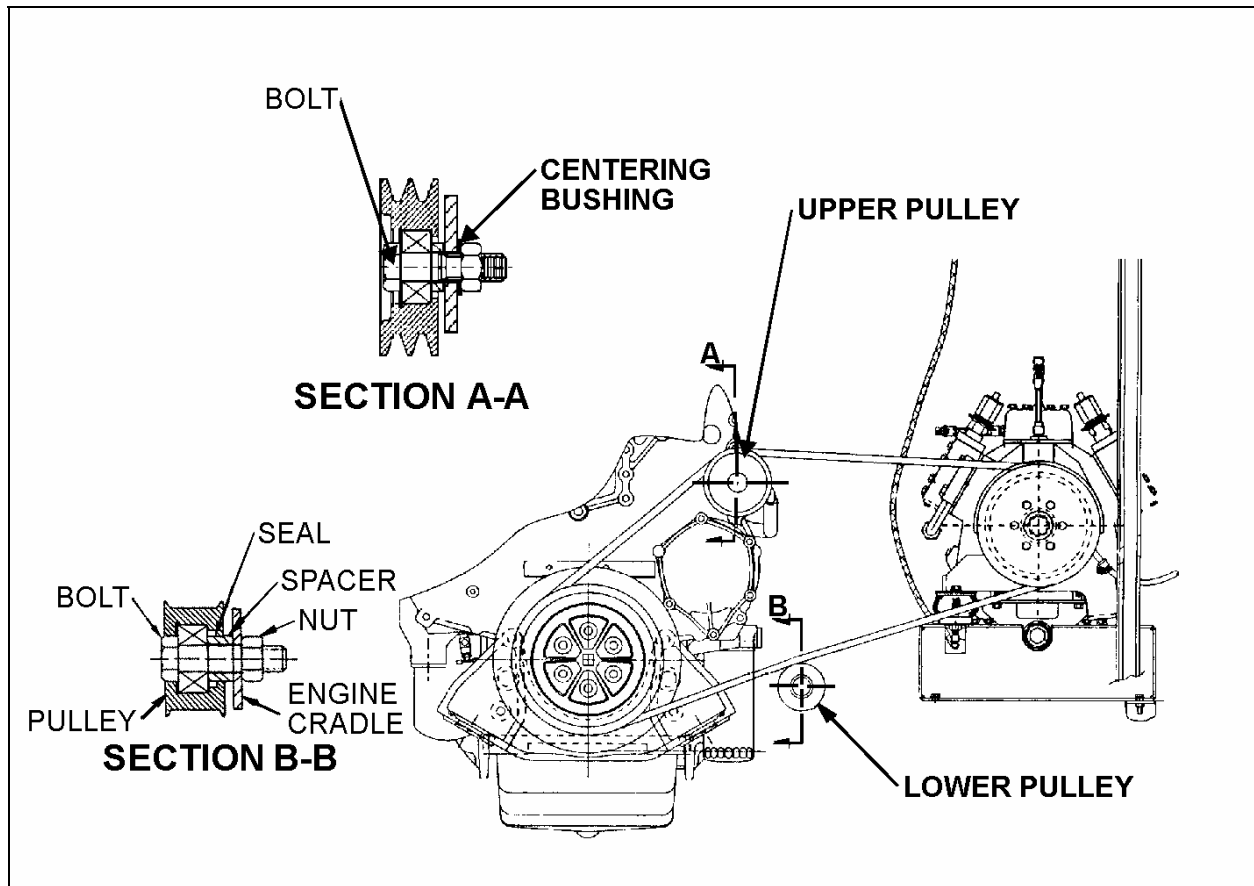

FIGURE 3: A/C COMPRESSOR DRIVE INSTALLATION
1. Unscrew bolt securing the lower idler pulley which is used to apply tension on A/C compressor belt, separate and keep parts (refer to fig. 3).
2. Install washer, spacer, oil seal (Prévost #507360), pulley assembly (Prévost #052208) and finally washer then fix pulley assembly onto engine using bolt and nut (refer to fig. 3).